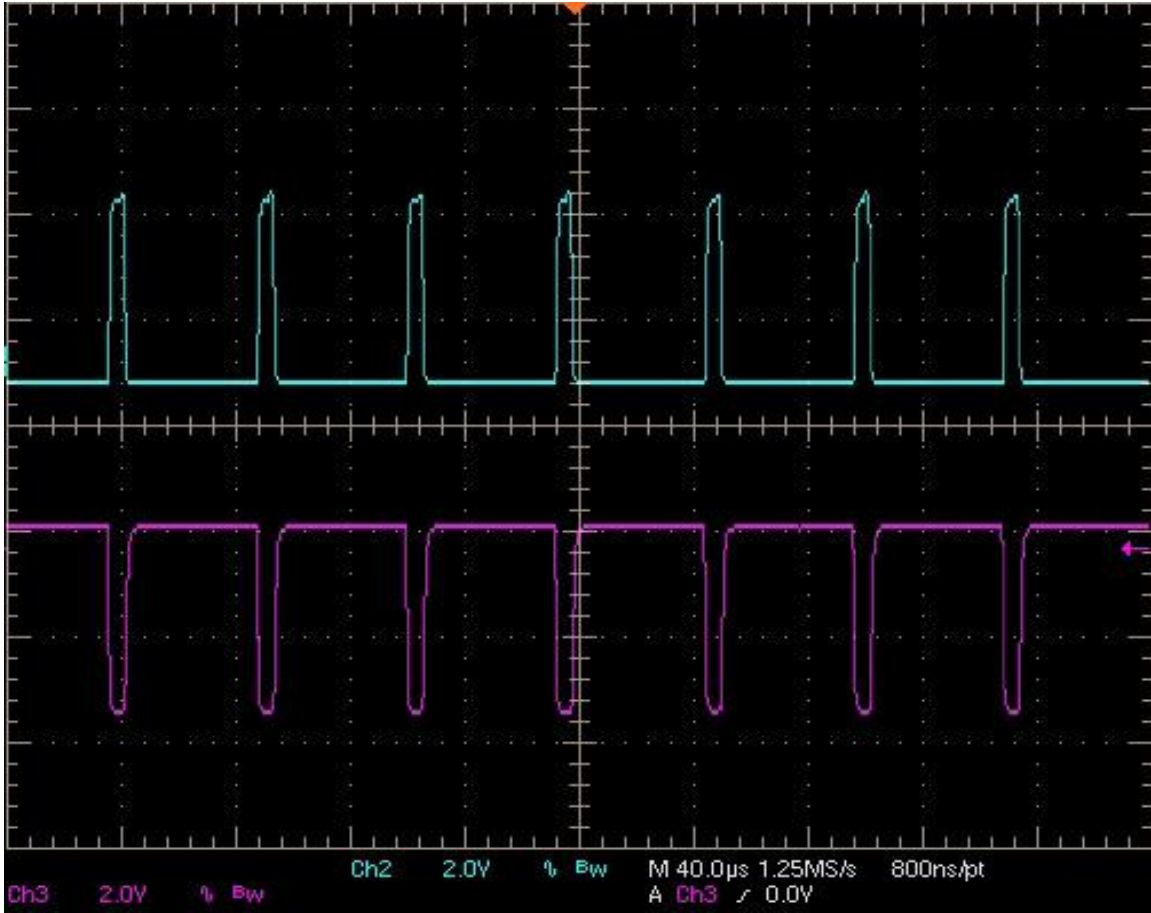

Figure 3: Logically inverted waveforms
- Connect the oscilloscope to pins TX and TXI (pins 7 and 9 resp. of connector J4). Verify that the both pins output a 3.3Vpp square wave of 19.2 kHz. Use the ground at pins 4 or 6 for the probe measurement. TXI should be logically inverted from TX (see figure 3).